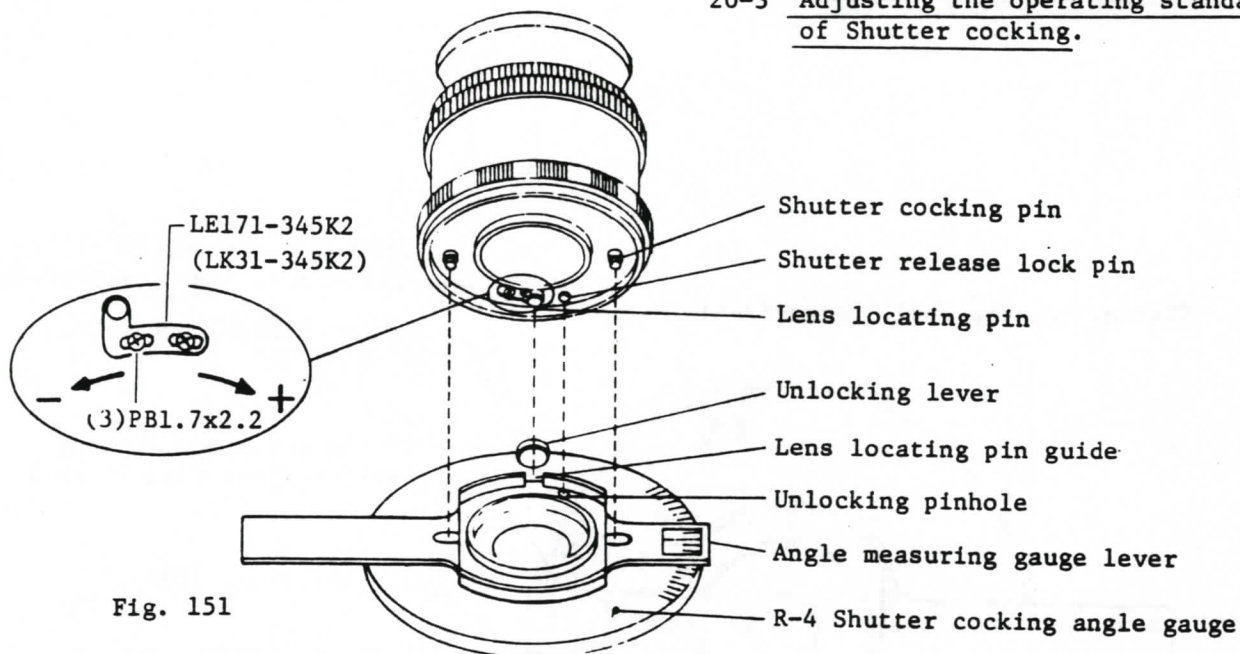

Fig. 151
... $70^{\circ}+15'$ and install the lens on the Shutter cocking angle gauge confirming whether the lens locating pin guide and the lens locating pin are just fixed. (Fig. 151.)
In order to rectify the error during the checking process, its adjustment needs loosening the screw (3)PB1.7x2.2 of the lens locating pin (LE171-345K2) as shown in Fig. 151.